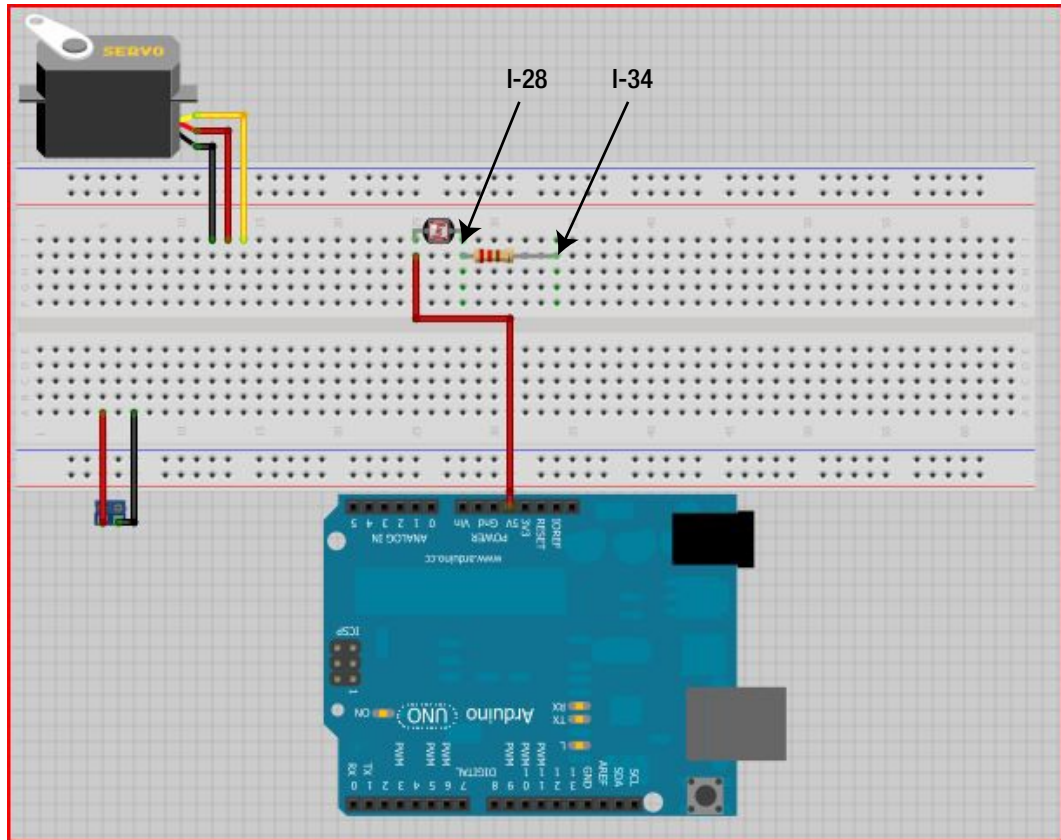

Figure 27-8. Attach the 10K-ohm resistor to the breadboard
- Add in a 10K (10,000-ohm) resistor from I-28 to I-34 of the breadboard. Figure 27-8 illustrates this process.